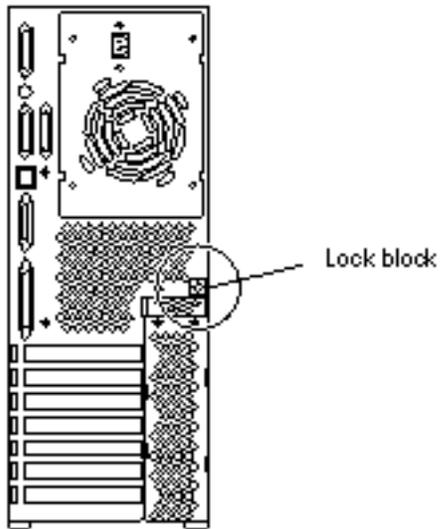

Figure 1-2 Lock Block Location
2. **Disconnect the lock block (Figure 1-2).**